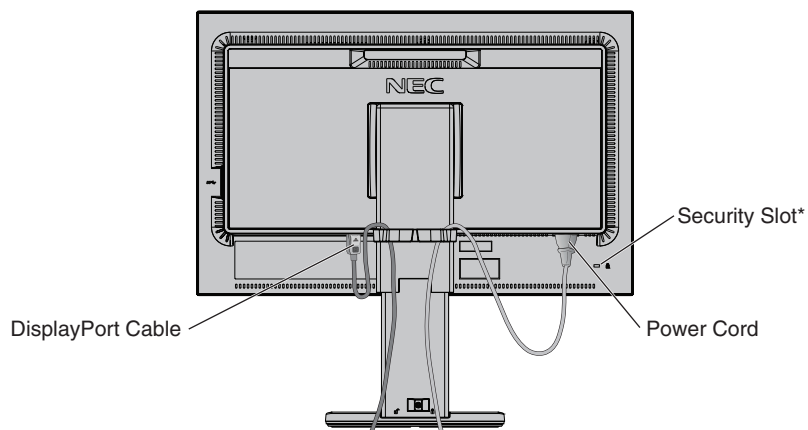
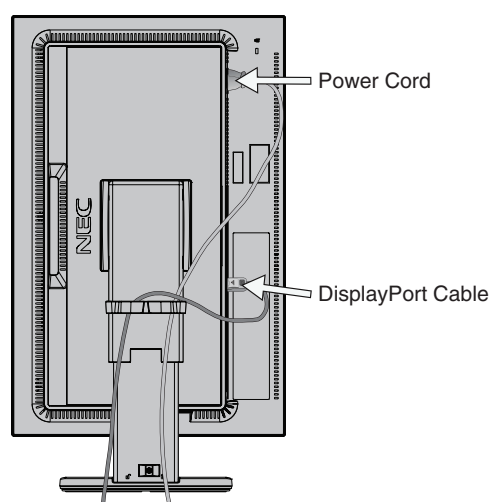

Figure C.2
Figure C.3
5. To keep the cables neatly and evenly organized, place them into the cable holder which is installed onto the stand (**Figure C.2** and **Figure C.3**).